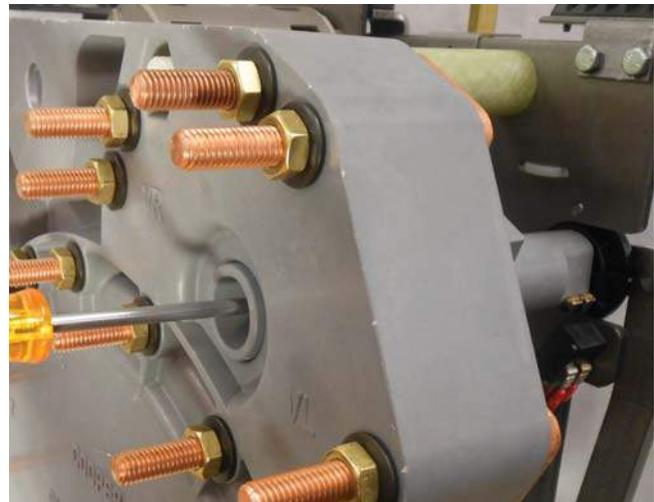

**Figure 45. Reinstalling bushing**
24. Apply Loctite® 243™ Threadlocker to the two 1/4-28 bolts. Using the bolts and a 7/16" wrench, fasten the reversing movable bushing to the front of the tap changer. Tighten the bolts to a torque of 30–40 in-lbs (3.4–4.5 Nm). See Figure 45.